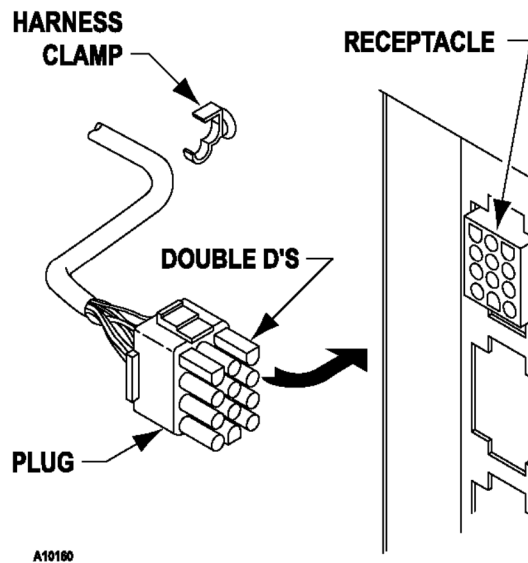

FIGURE 4. TRAY HARNESS
2. Locate the harness clamp on the right side wall. See FIGURE 4.
6. Locate the release lever on the left and right tray rails. See FIGURE 4. Swing levers all the way up to